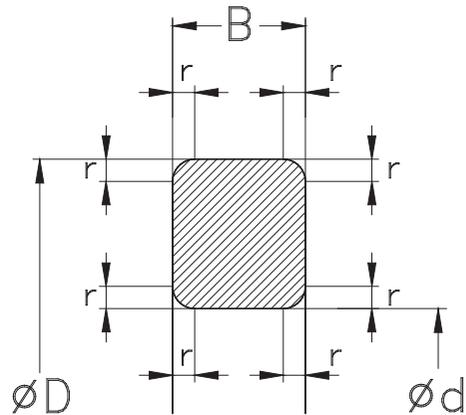

Fig.3.2
Defined in these standards are bearing base design, **bore diameter (d)**, **outer diameter (D)**, **width (B)**, or, in the case of thrust bearings, **height (H, T)** and minimum values for chamfer dimensions (**r**) (fig.3.2).